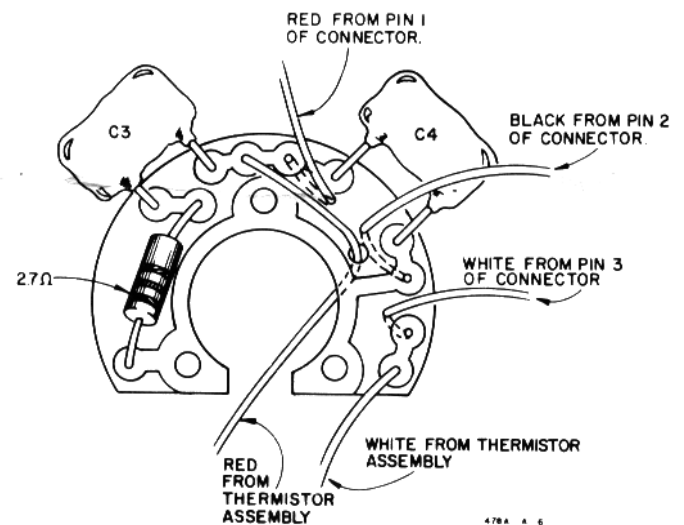

Figure 9. HP Model 478A Printed Circuit Assy Wiring
- a. Referring to Figure 9, connect the three wires from receptacle connector to printed circuit assembly.
c. Pass the red wire from the thermistor assembly through the hole indicated in Figure 9. Do not connect to printed circuit assembly at this time.